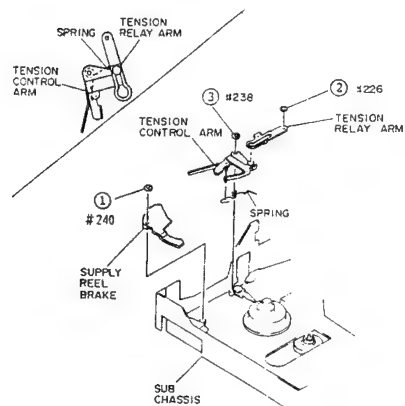

Fig. 2-48
- 1) Remove one (1) washer and pull out the supply reel brake from the sub chassis. (See Fig. 2-48)
- 2) Remove one (1) washer holding the tension relay arm.
- 3) Remove one (1) washer holding the tension control arm.